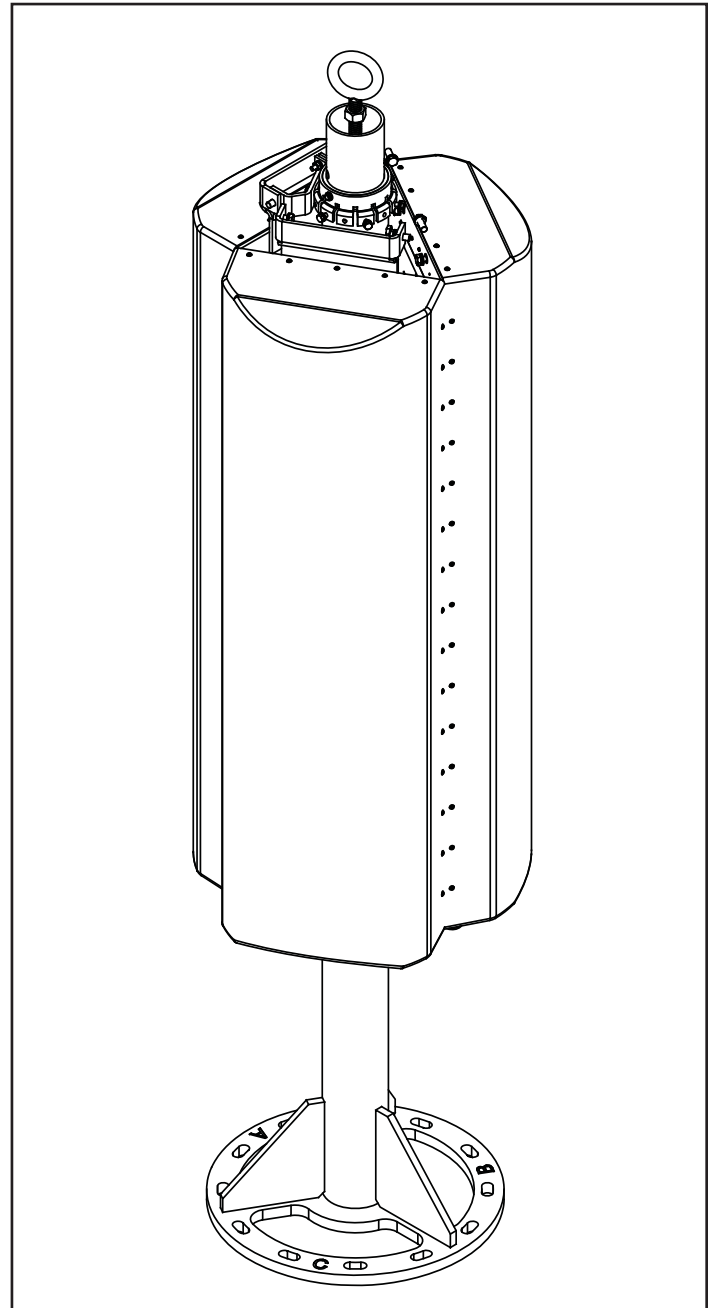

Figure 7. Fully Assembled Tree Configuration.
11. Repeat the procedures discussed in this section (as applicable) to attach remaining antennas to the universal tree stand. See Figure 7 for an example of a completed tree mount.